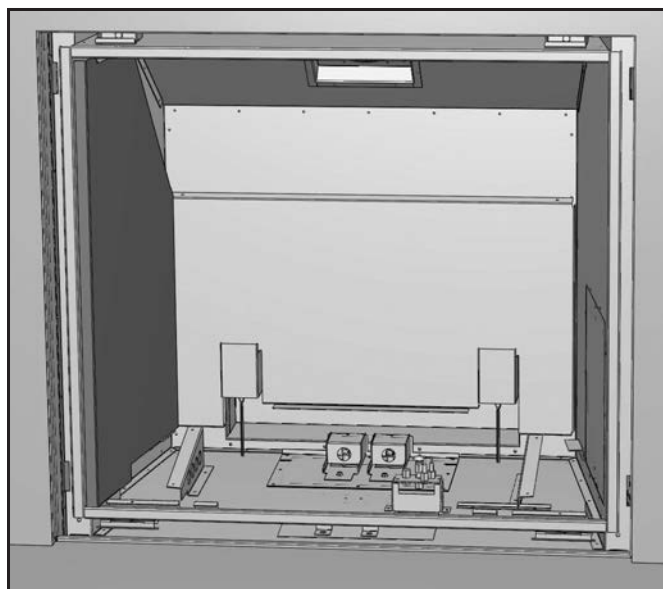

Figure 35: Rear & Left Porcelain Panels in Place.
3. Install the Rear Firebox Liner. This panel rests on top of the accent lights and Rear Brick Panel Support. It will stay in this location as you install the remaining panels. Refer to Figure 35.
4. Install the Left Firebox Liner Panel; it sits on the bottom front edge of the firebox (see Figure 35), a support bracket at the lower rear of the firebox, and is held in by a retainer at the top of the firebox. Adjust the panel retainers as required.